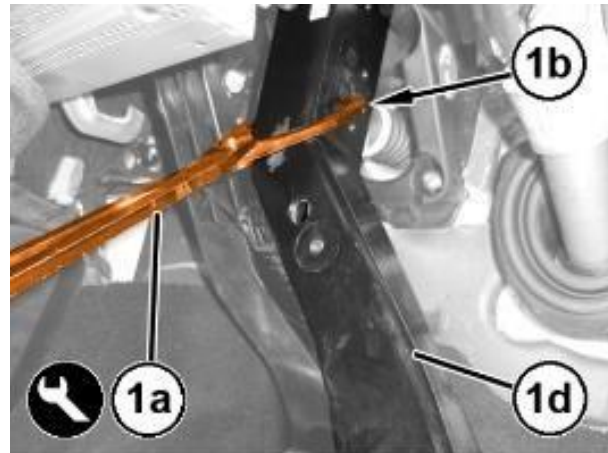

Figure 66 – Brake Pedal Retainer
61. Using the brake switch pliers 2000010500 (1a) positioned on the rear part of the holes (1b) of the brake pedal, compress the retaining device (1c) and retract the brake pedal (1d) at the same time in order to release the pedal from the ABS module push rod (Figure 66).